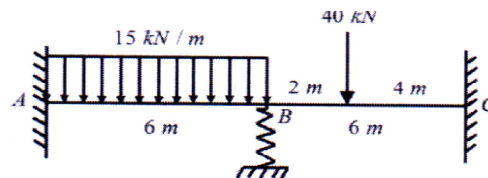

Figure 4
b) Analyze the continuous beam ABC as shown in Figure 4 using stiffness matrix method. The beam is fixed at A and C and supported by spring at B. Take EI constant. Draw BMD. [14]